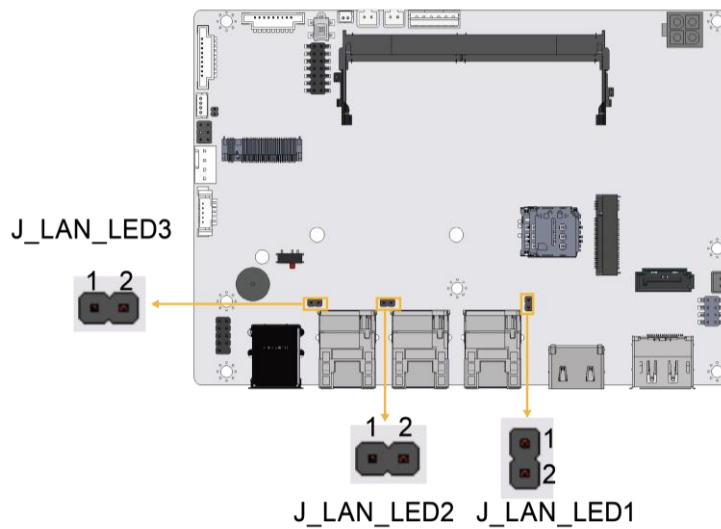

Figure 3-10: LAN LED Connector Locations
- CN Location:** See **Figure 3-10**